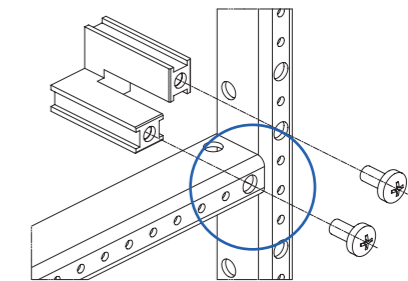

Fig. 5: Support rail connector half (type EPTV05) - for vertical installation
**Support rail connector - half (Fig. 5)**